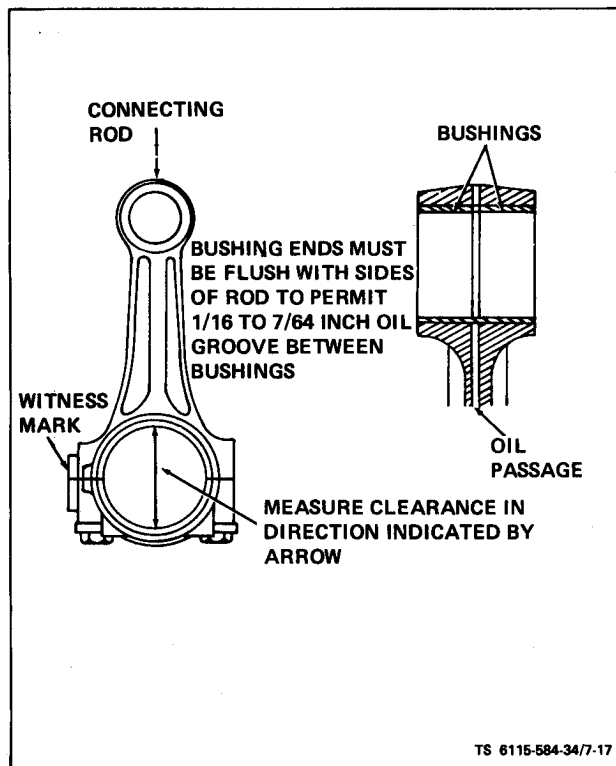

Figure 7-17. Connecting Rod and Bushings
(3) Rings. Place each piston ring into its cylinder bore and using a feeler gauge measure gap dimensions. Gap is shown in Table 1-2. If gap is under 0.010 inch, file as follows:
(4) Connecting Rods (see figure 7-17). Clean connecting rods and check for each defects. Check connecting rod bushings for proper clearance with piston pin. Clearance is given in Table 1-2. If bushings (13, figure 7-14) are excessively worn, press them out and install one new bushing from each side of bushing bore. Press new bushings only until flush with sides of rod to leave 1/16 to 7/64 inch oil groove in center. Ream bushing I.D. to obtain the proper clearance. Check bore in connecting rod. Bore must be open. Check connecting rod alignment on a standard alignment fixture.
(5) Connecting Rod Bearings (see figure 7-17). Inspect connecting rod bearings for burrs, breaks, pits and wear. Measure clearance between bearings and crankshaft journal. See Table 1-2 for clearance. If necessary, repiace with new standard or undersize precision bearings.
(1) Hone cylinder walls. Clean and oil the cylinder walls. Install each piston in proper cylinder using a suitable installer. Each piston assembly should be installed with notch on piston toward front of engine. The notch on the circumference of the closed end of the piston should be located closest to front of engine.
(2) Position each connecting rod on crankshaft and oil the journal and install rod cap with bearing half. When installing rod cap, position so raised witness mark on the forging matches the mark on connecting rod. See figures 7-17 and 7-18. The piston witness mark should face front and rod witness marks toward camshaft side of engine.
(3) Tighten capscrews to specified torque. See table 1-1.
(4) Turn engine over by hand to see that all bearings are free.